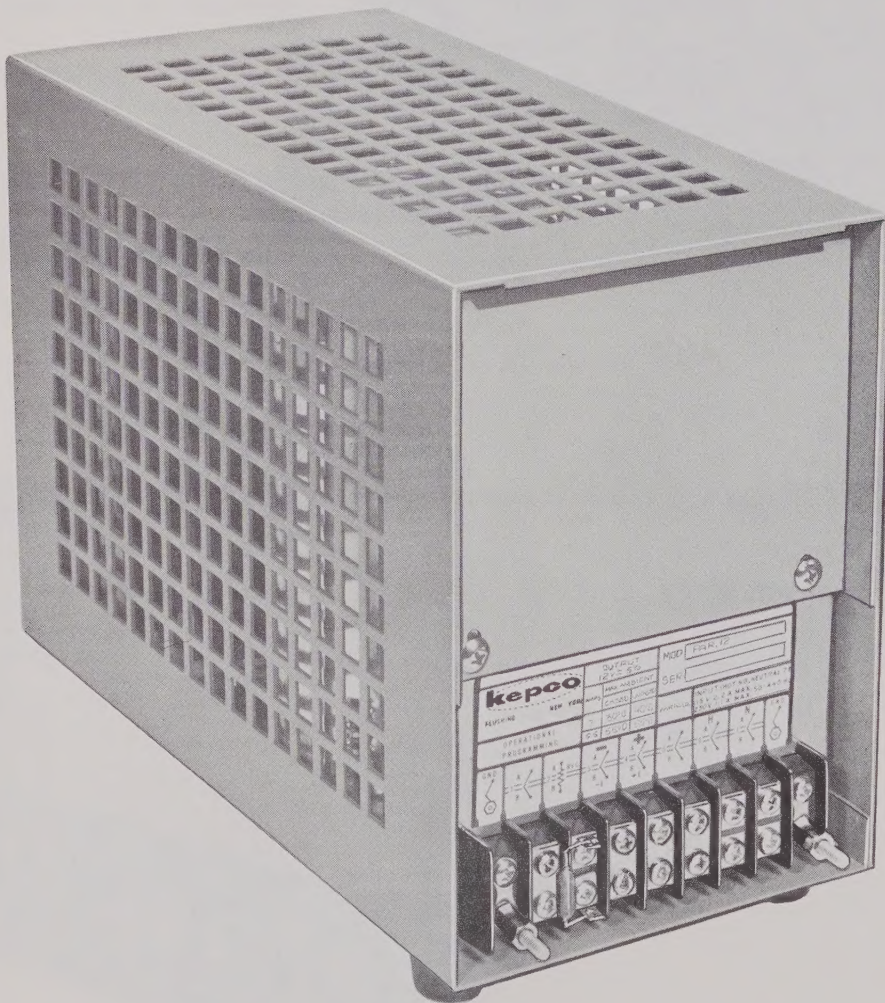

FIG. 1-2 PAR POWER SUPPLY MODULE, CASED
- a) Case. Wrap-around cover with end plate and four (removable) feet for bench use. (Model CA-200) (Refer to FIG. 1-2)